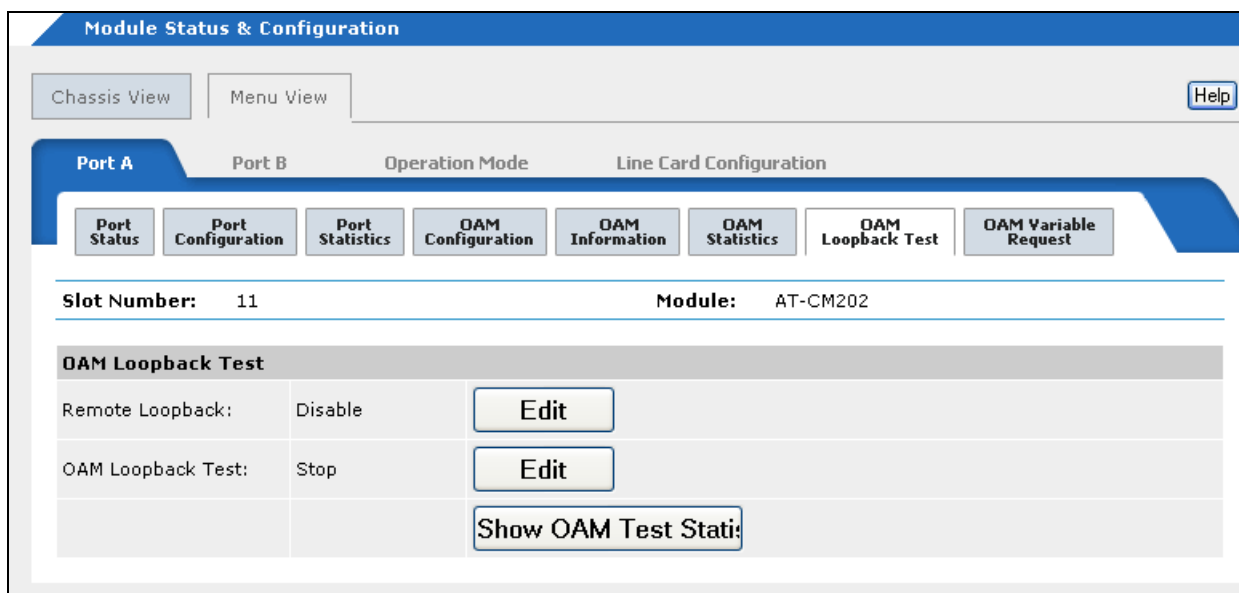

Figure 94. OAM Loopback Test Tab
4. Click the **OAM Loopback Test** tab to display the OAM Loopback Test tab in Figure 94.